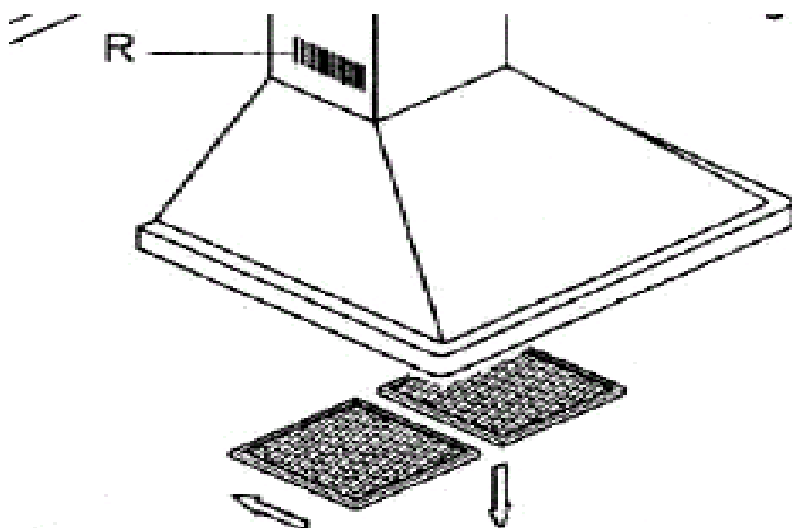

Fig. 2
- ✓ Remove the metal anti-grease filters (see Figure 2 below) and find the old bulb located in the light fixture up inside the exposed canopy. Change the halogen bulb using only halogen spares with a G4 coupling, max. 20W.
- 1) Press the handle of the metal grease filter towards the rear part of the unit until it is released from the front housing, and remove it by pressing downwards (Fig. 2 - above).